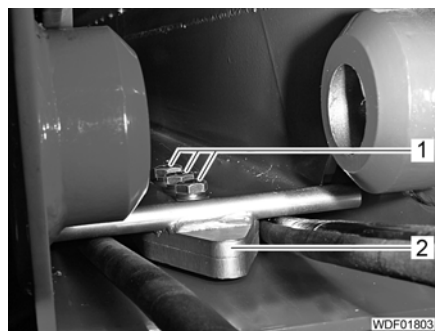

Fig. 535 Deflection plate
- Insert deflection plate (Fig. 535,2) from the back.
- Screw in 3 bolts (Fig. 535,1) with washers and spring washers and tighten.